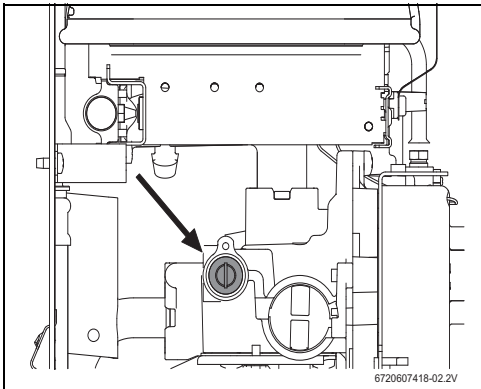

Fig. 19 Maximum gas flow adjusting screw
- ▶ Remove the seal from the adjusting screw (Fig. 19).
- ▶ Using the adjusting screw (Fig. 19), regulate the gas pressure until the values indicated in the table 6 are achieved.